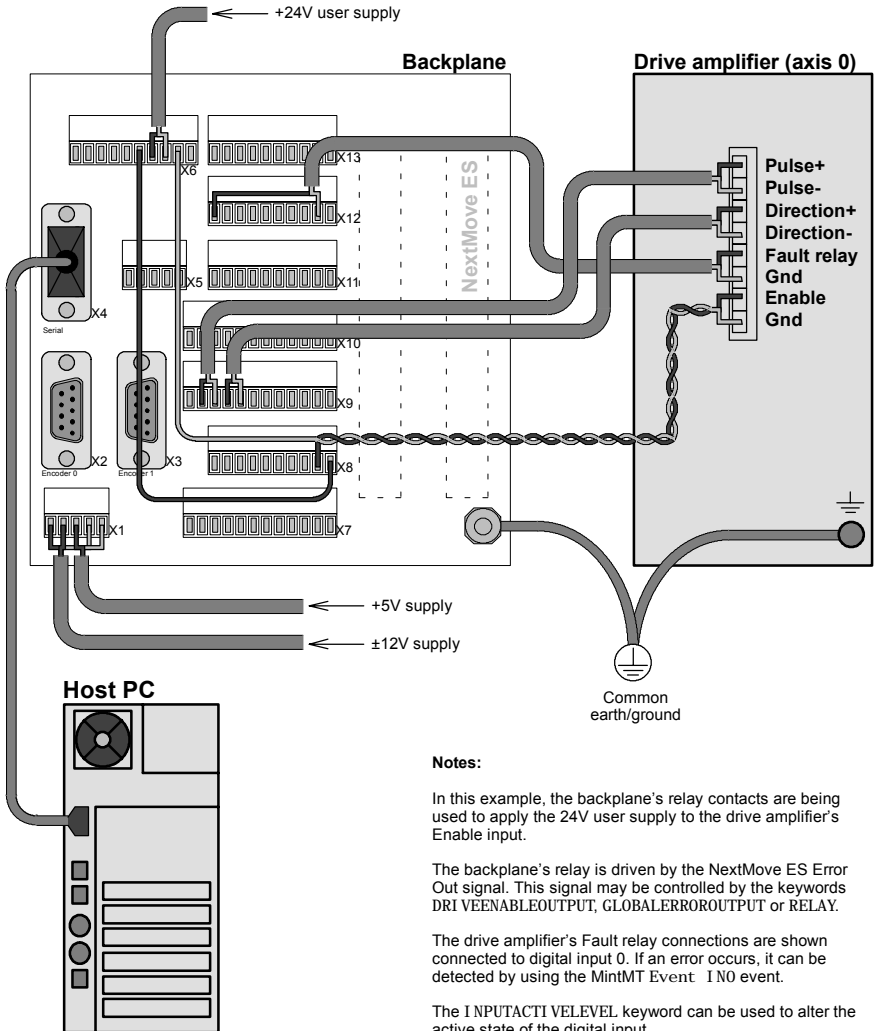

Figure 14 - Example minimum system wiring
As a guide, Figure 14 shows an example of the typical minimum wiring required to allow the NextMove ES and a single axis stepper amplifier to work together. The optional opto-isolating backplane card BPL010-502 is shown. Details of the connector pins are shown in Table 4.
**Table 4 - Connector details for minimum system wiring shown in Figure 14**